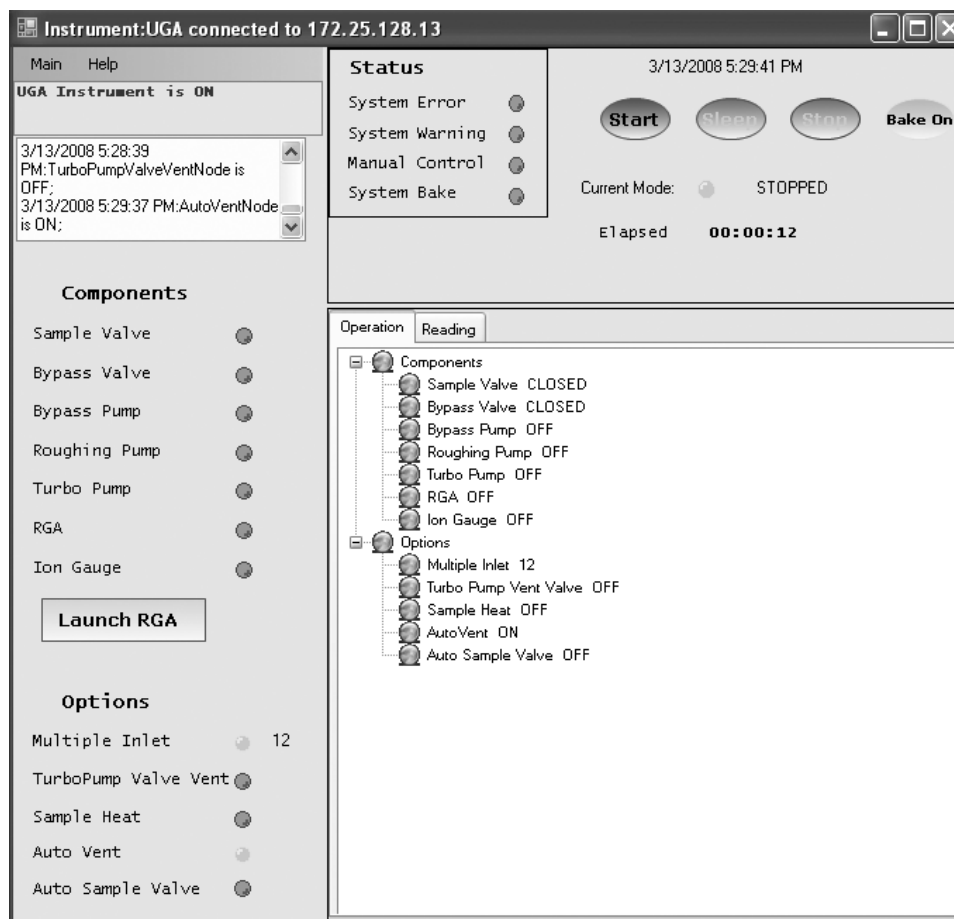

Fig. 2-10. Screenshot of UGA control software after proper TCP/IP Ethernet connection. In the title bar, the connection is described.
- The program shows the complete present state. Fig. 2-10 shows that Multiple inlet is installed in this Unit and the position is at #12 channel. The unit is stopped, which is the Off state, etc.